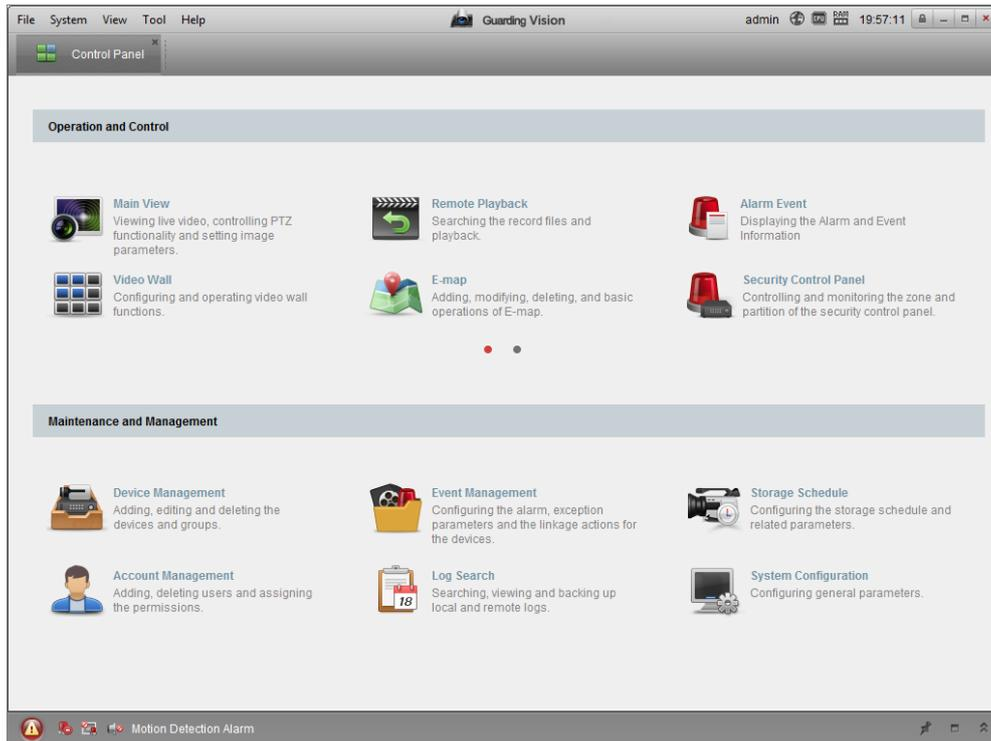

Figure 2-6 Guarding Vision Control Panel
1. Run the client software and the control panel of the software pops up, as shown in Figure 2-6.